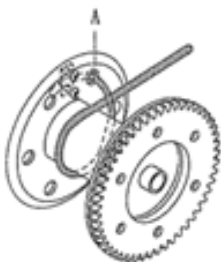

Figure 1
1. (a) BHW-800, BHW-1200, BHW-1800: please refer figure 1.